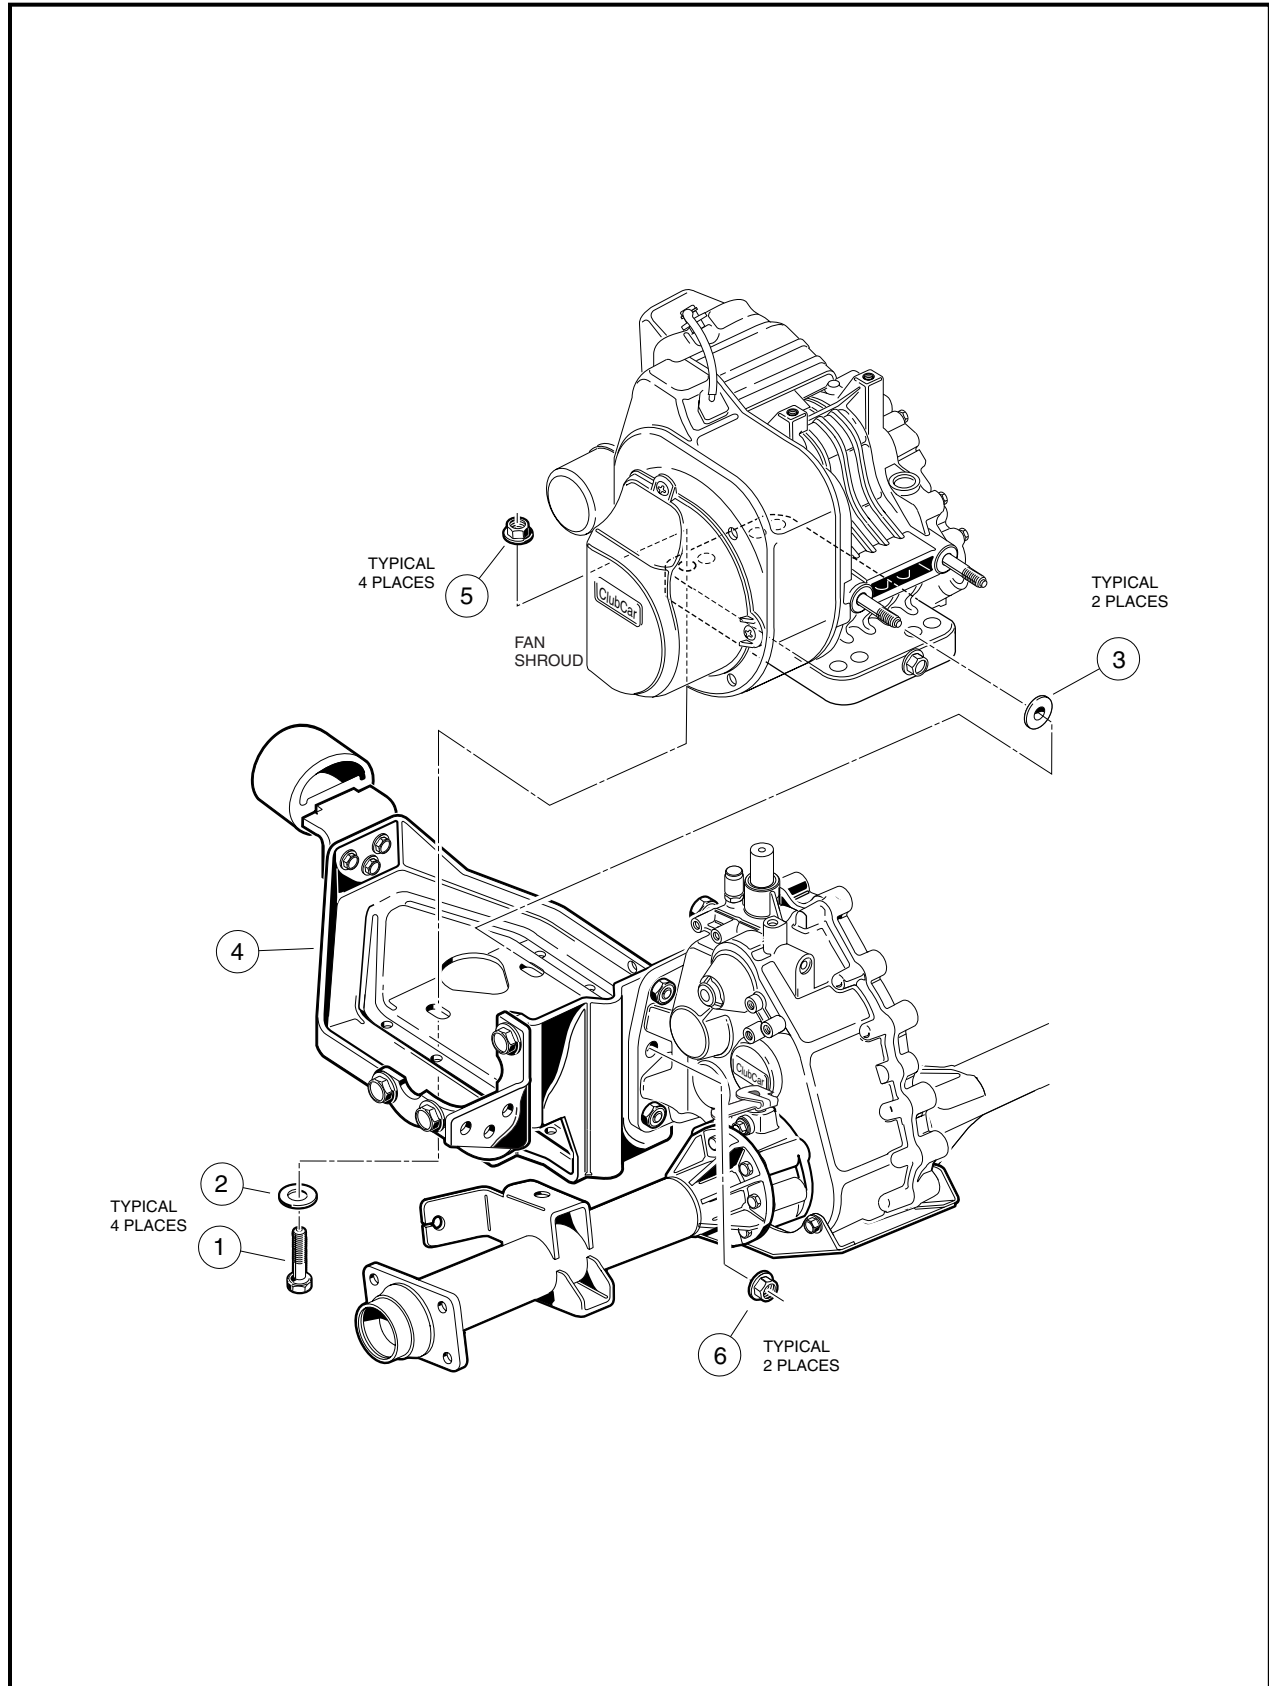

Figure 13-5 Engine Mounting Plate – with MC012C-AS00 Transaxle
5. Remove engine mounting hardware (Items 1, 2, 3, 5 and 6) (**Figure 13-5, Page 13-6**).
1. Remove the four screws and fan shroud (**Figure 13-5, Page 13-6**).
1. Place engine onto engine mounting plate and tighten the mounting hardware (1, 2 and 5) to 21 ft-lb (28.4 N-m). Tighten nuts (6) to 17 ft-lb (23.1 N-m) (**Figure 13-5, Page 13-6**).